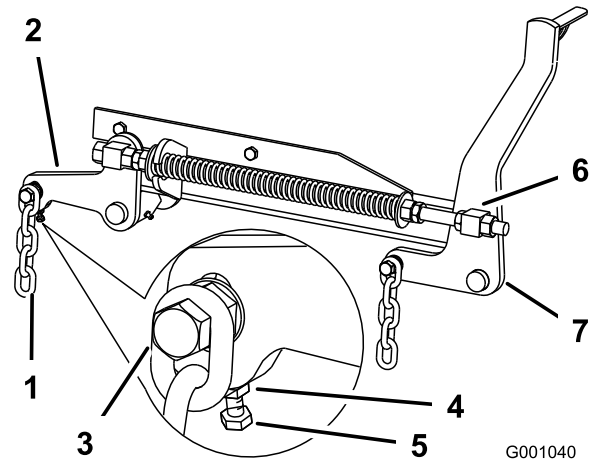

Figure 98
8. If the measurements at positions **B** or **C** are not correct, loosen the bolt attaching the rear chain to the rear-support arm (Figure 98).
8. Loosen the jam nut under the rear-support arm and adjust the adjustment bolt to get a measurement of 80 to 83 mm (3-1/8 to 3-1/4 inches); refer to Figure 98.
7. Loosen the front swivel jam nuts, at the front of the right and left swivels, approximately 13 mm (1/2 inch) (Figure 98).
8. Adjust the lift nuts on both the left and the right side of the machine to achieve 6 to 10 mm (1/4 to 3/8 inch) lower in front at **A** than in the rear at **B** (Figure 98).